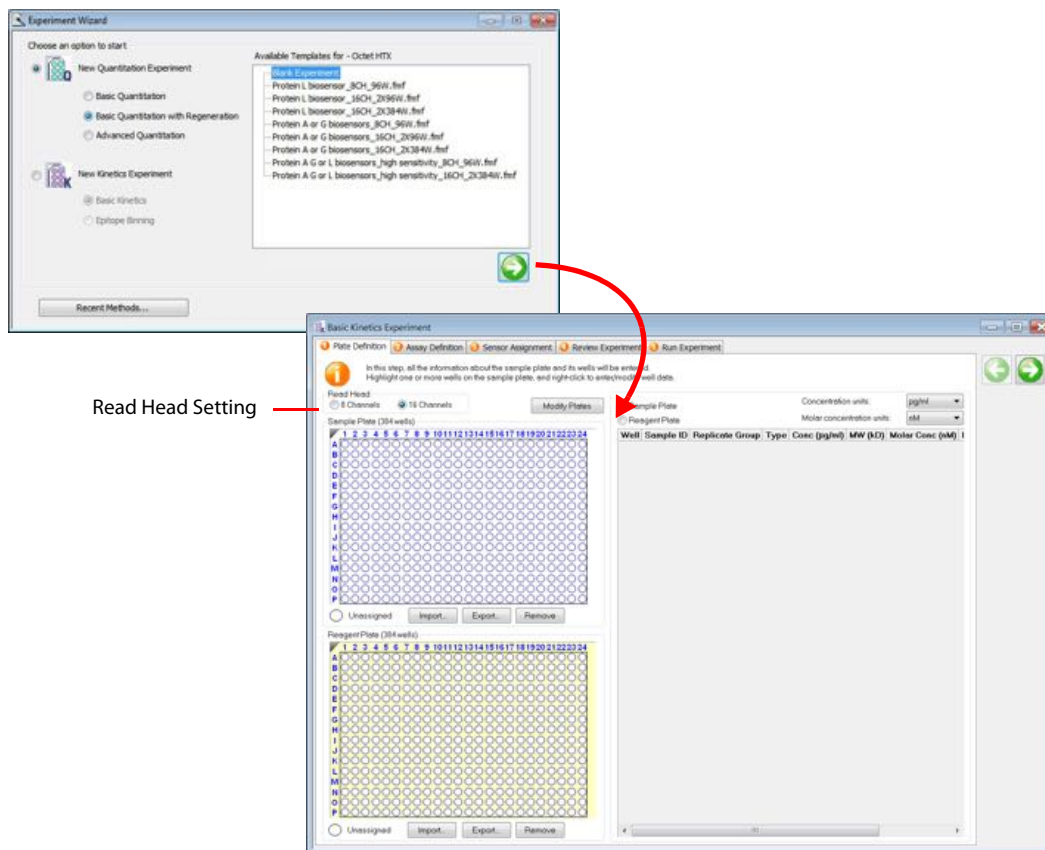

Figure 10-1: Starting a Kinetics Experiment with the Experiment Wizard
2. In the **Experiment Wizard**, click **New Kinetics Experiment** (see Figure 10-1, left).
4. Click the arrow button(). The **Basic Kinetics Experiment** window displays (Figure 10-1, right).